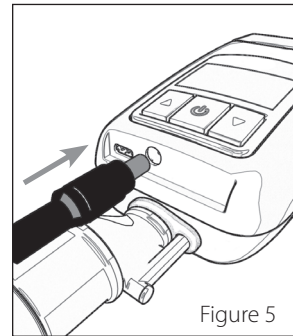

Figure 5
3. Plug the AC Adapter into the Z2. (Figure 5)